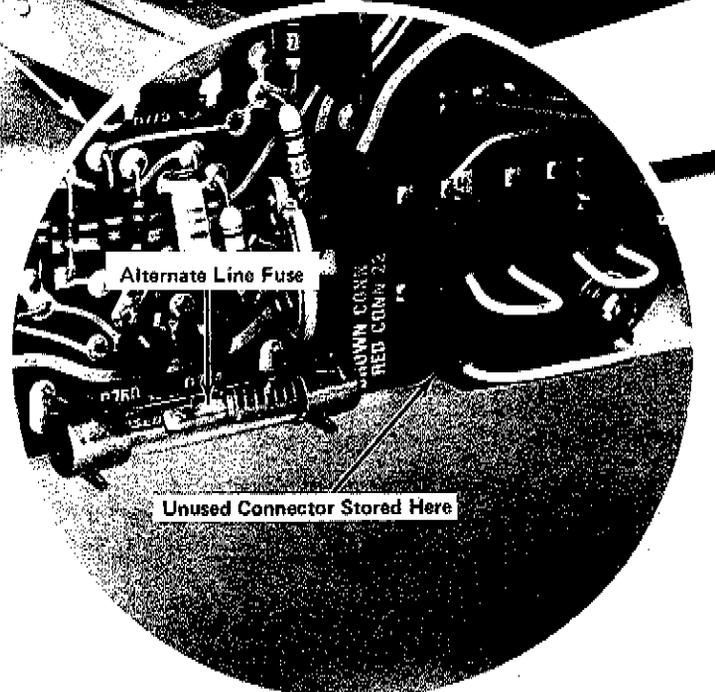

Fig. 4-1. Power transformer line-voltage taps.
**Power Supply Voltage and Ripple.** Table 4-1 lists the voltage tolerances of the power supplies in the 577. If the supply voltage is within the listed tolerance, the supply can be assumed to be operating properly. If outside the tolerances, the supply may be misadjusted or operating incorrectly. See Fig. 4-1 for power transformer line-voltage taps.